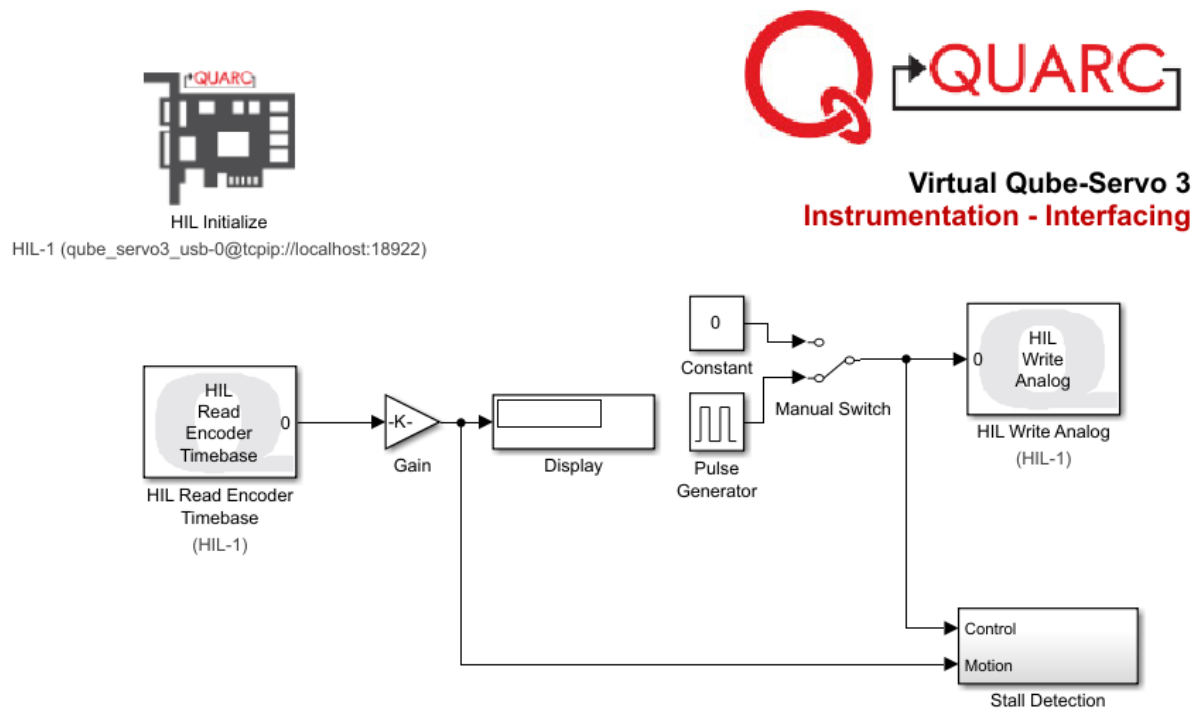

Figure 1. Simulink model used with QUARC to drive motor and read angle on Qube-Servo 3
In this lab, we will make a **Simulink** model using **QUARC** blocks to drive the DC motor and then measure its corresponding angle – as shown in Figure 1.
14. Connect the **HIL Read Encoder Timebase** block as shown in figure 1, the **HIL Write Analog** should be missing.
17. Connect the **Constant** and **HIL Write Analog** blocks together, as shown in Figure 1.
Note: There is a **Stall Detection** subsystem in Figure 1 and Figure 4. This block will monitor the applied voltage and speed of the DC motor to ensure that it does not stall. If the motor is motionless for more than 20 seconds with an applied voltage of over ± 5 V, the simulation is halted to prevent the Qube-Servo 3 from overheating and subsequent potential damage to the motor.